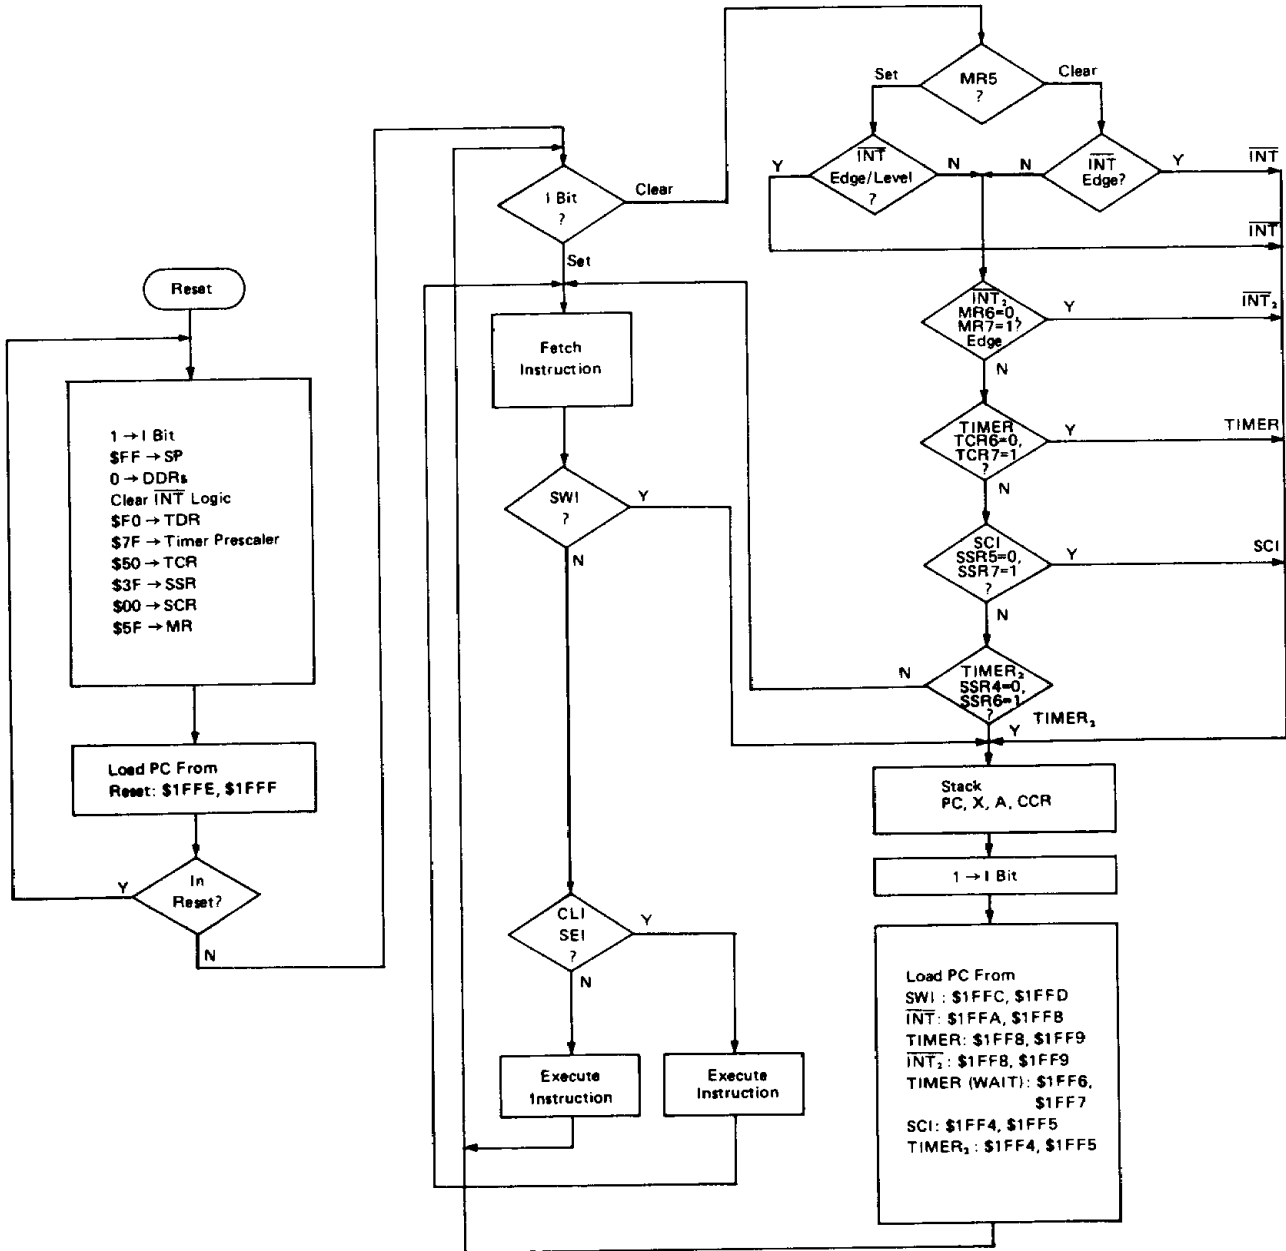
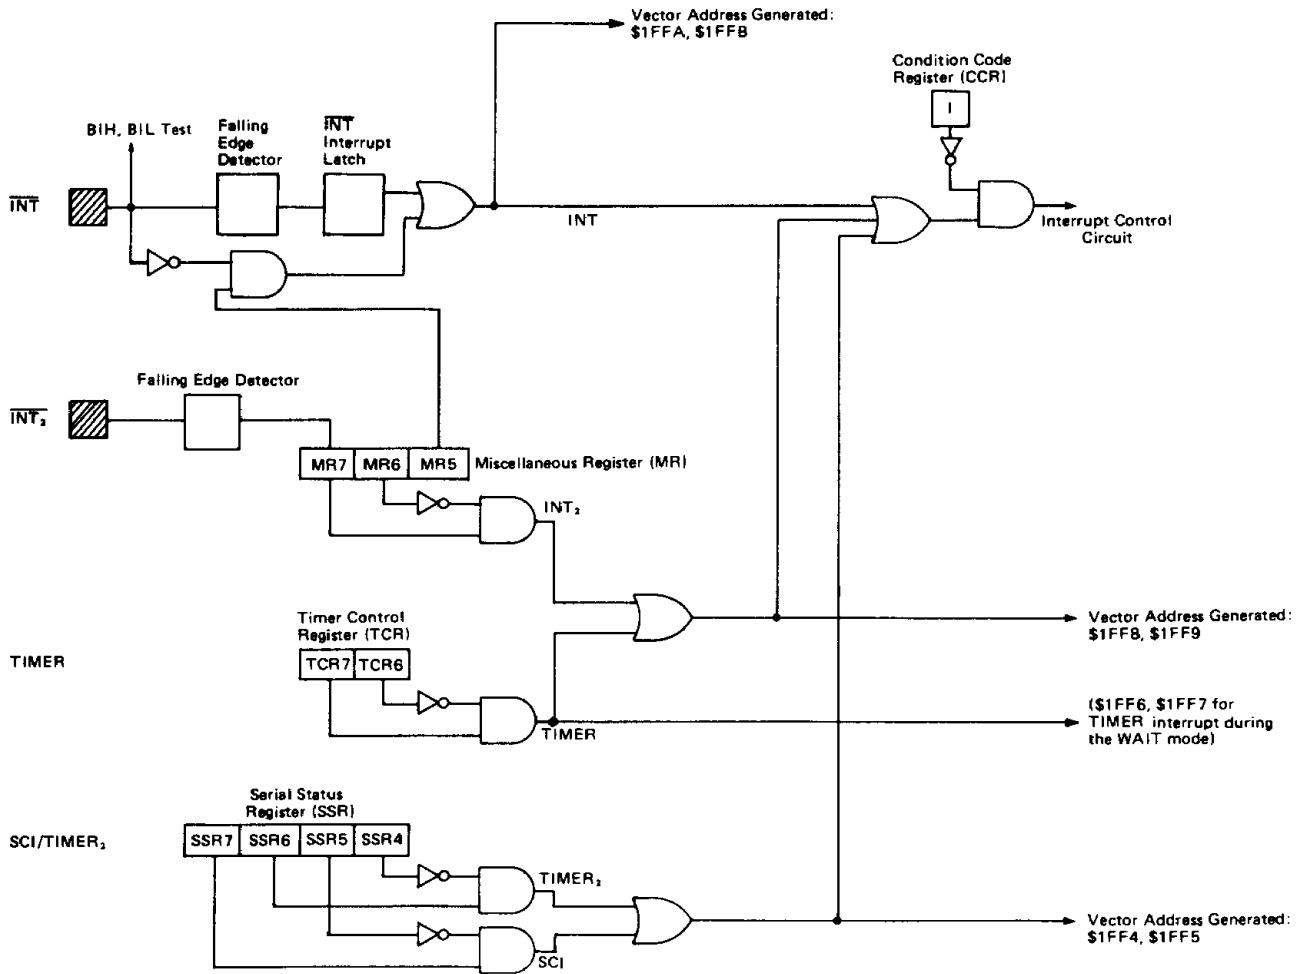

Figure 7 Interrupt Flowchart
Figure 8 Interrupt Request Generation Circuitry
A flowchart of the interrupt sequence is shown in Fig. 7. A block diagram of the interrupt request source is shown in Fig. 8.
In the block diagram of Fig. 8, the external interrupt \overline{INT}_2 is a falling edge trigger input, whereas, the external interrupt \overline{INT} can be configured as a falling edge trigger input or a combination of falling edge and low level trigger input, depending on the status of bit 5 in the miscellaneous register (MR). When an interrupt request is detected at the \overline{INT}_2 or \overline{INT} inputs, an interrupt request is generated and latched. The \overline{INT} interrupt request is automatically cleared if jumping is made to the \overline{INT} processing routine. Meanwhile, the \overline{INT}_2 request is cleared if "0" is written in bit 7 of the miscellaneous register.